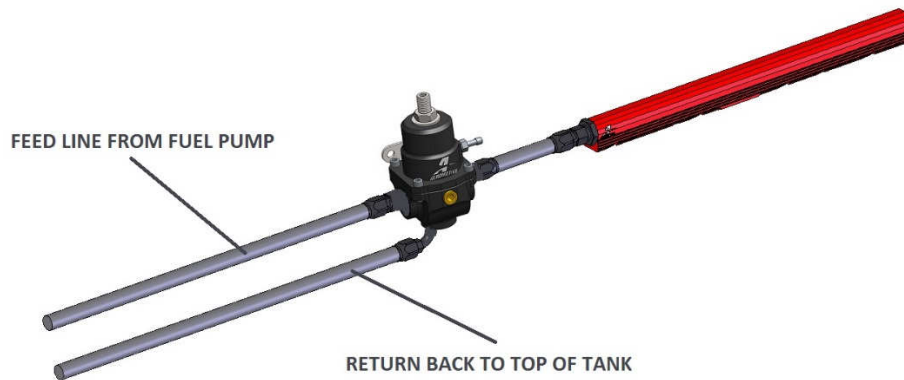

FIGURE 1-1
9. Figure 1-1 depicts a “returnless” fuel rail with only one fuel line connection, as commonly used by the factory on late model fuel systems beginning in 1999. Positioning the regulator after the fuel rail is recommended for performance applications, however your new Aeromotive return-style regulator may be configured for a “returnless” type of engine/fuel rail as well. This is done by flowing into one of the regulator side ports from the pump and out of the opposite side port into the fuel rail inlet. Note: a return line **MUST STILL** be routed from from the bottom (return) port back to the top of the fuel tank.